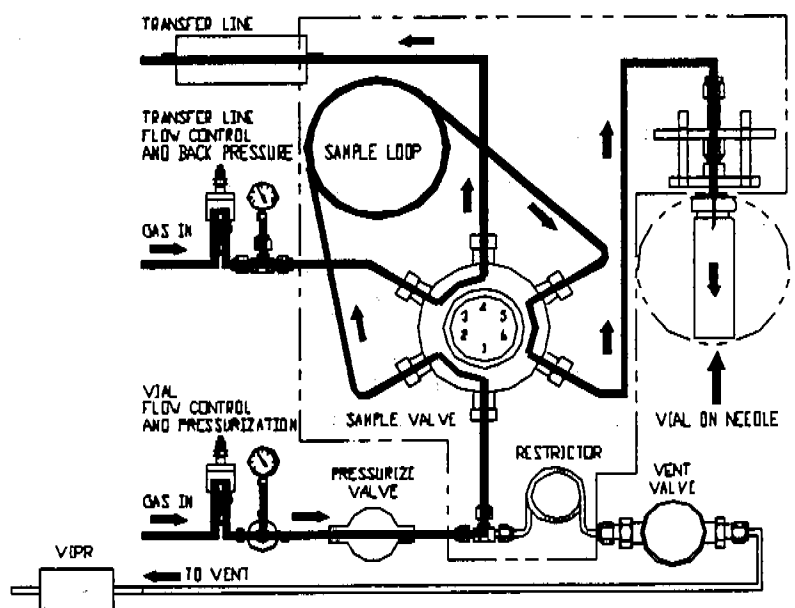

Figure 5-6 7000 Flow In Vial Pressurization Mode
- The pressure within the vial is used to expand the headspace atmosphere into the loop and out of the vent before injection (see Figure 5-6). For maximum precision, there must be enough pressure in the vial to flush the sample loop with *at least twice the sample loop's volume*.